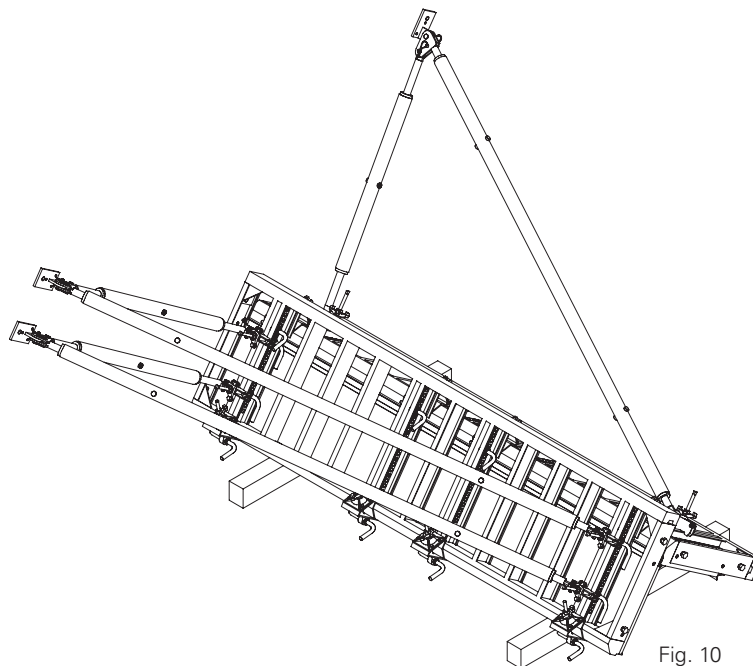

Fig. 10
4. Fix push-pull prop and kicker brace with bolts and cotter pins. Fig.10